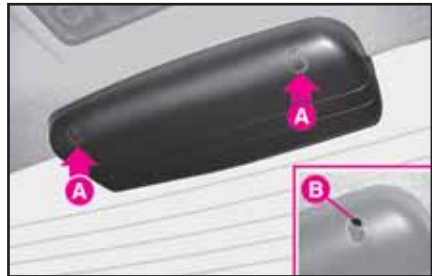

fig. 23
- 1) Remove the protective caps working from inside the vehicle (**fig. 23-A**), remove below bolts (**B**).